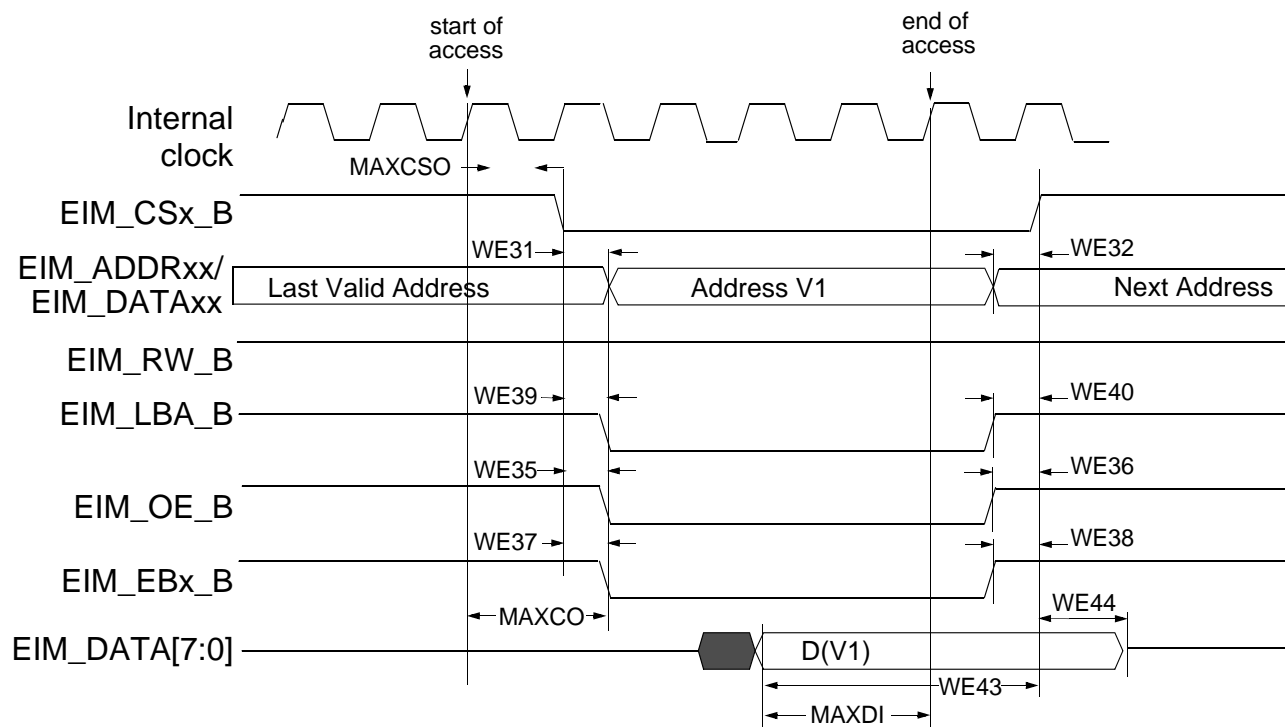
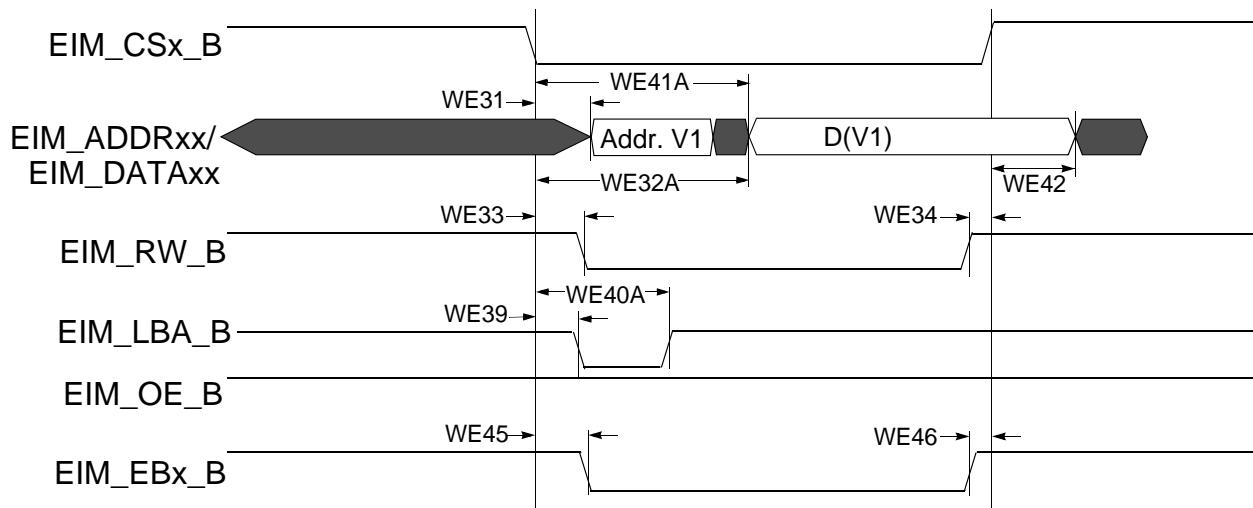
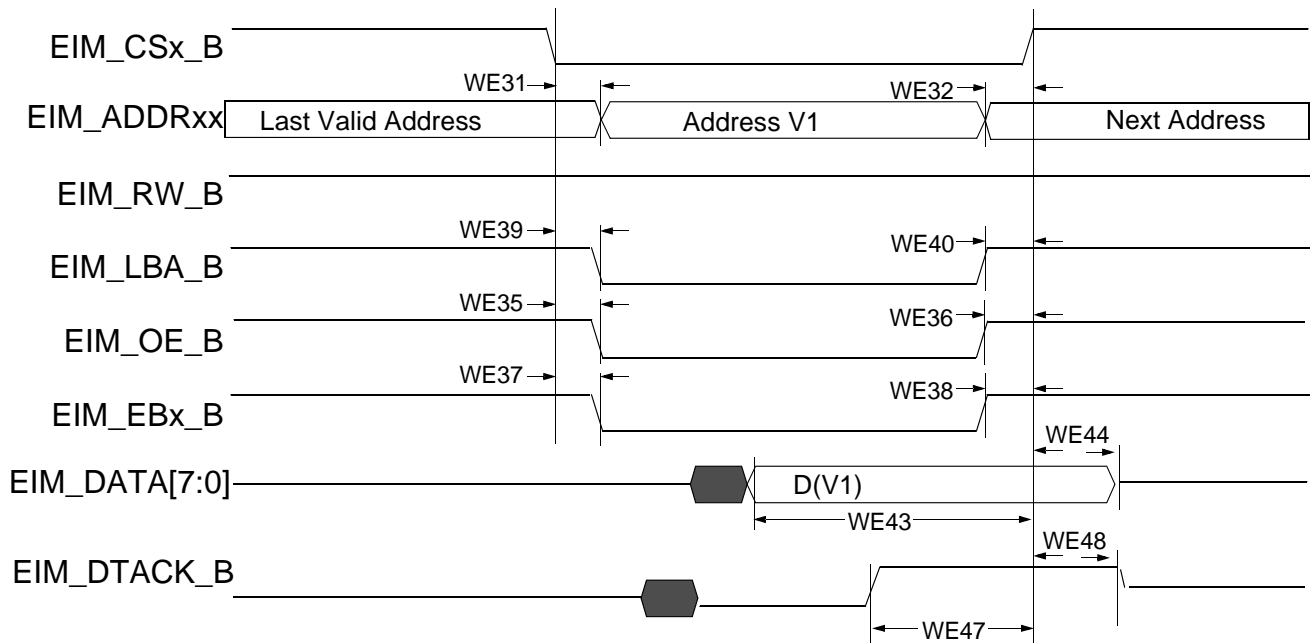

Figure 16. Asynchronous Memory Read Access (RWSC = 5)
Figure 19. Asynchronous A/D Muxed Write Access
Figure 20. DTACK Read Access (DAP=0)
Figure 16 through Figure 20, and Table 35 help you determine timing parameters relative to the chip select (CS) state for asynchronous and DTACK EIM accesses with corresponding EIM bit fields and the timing parameters mentioned above.
Asynchronous read and write access length in cycles may vary from what is shown in Figure 16 through Figure 19 as RWSC, OEN and CSN is configured differently. See the i.MX 6SoloLite reference manual for the EIM programming model.